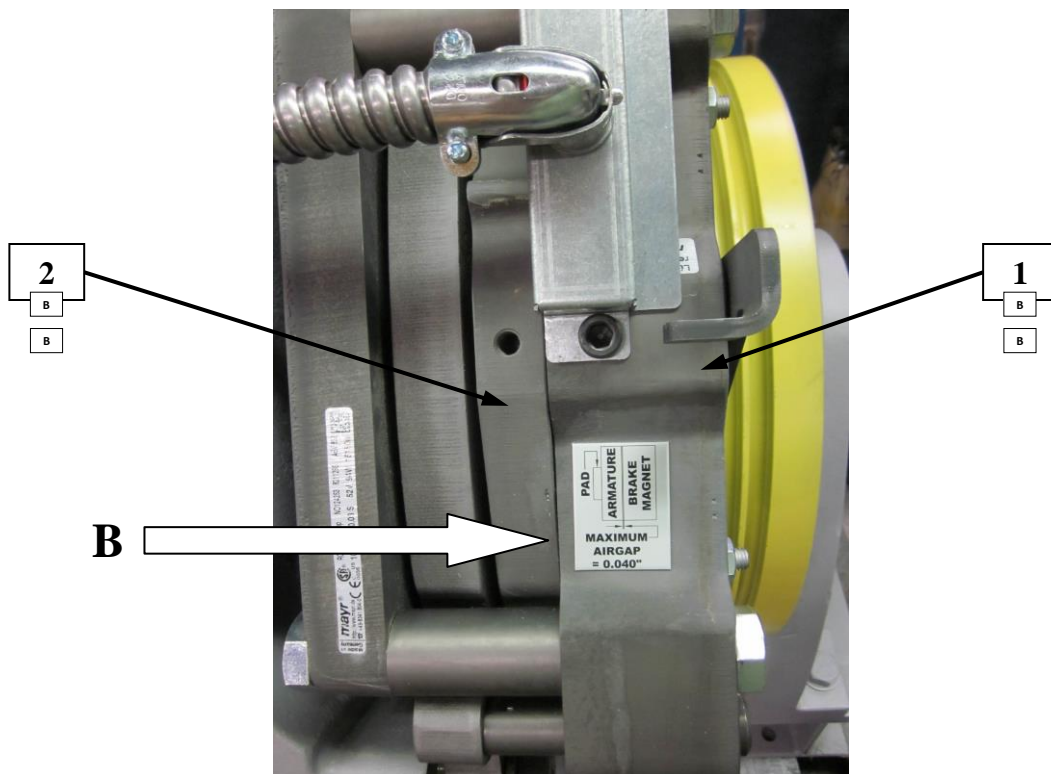

Figure 17
- Check Air Gap (between Coil Carrier Assembly “1” and Armature Disc “2”) at “B”, approx. 0.020 inch gap should be **equal** all the way around. (Figure 17)
- With the Brake clamping the rotor (de-energized) Use a 3/8” Hex Wrench to loosen (4 per brake) socket head screws “E&F”. Shown in Figure 17